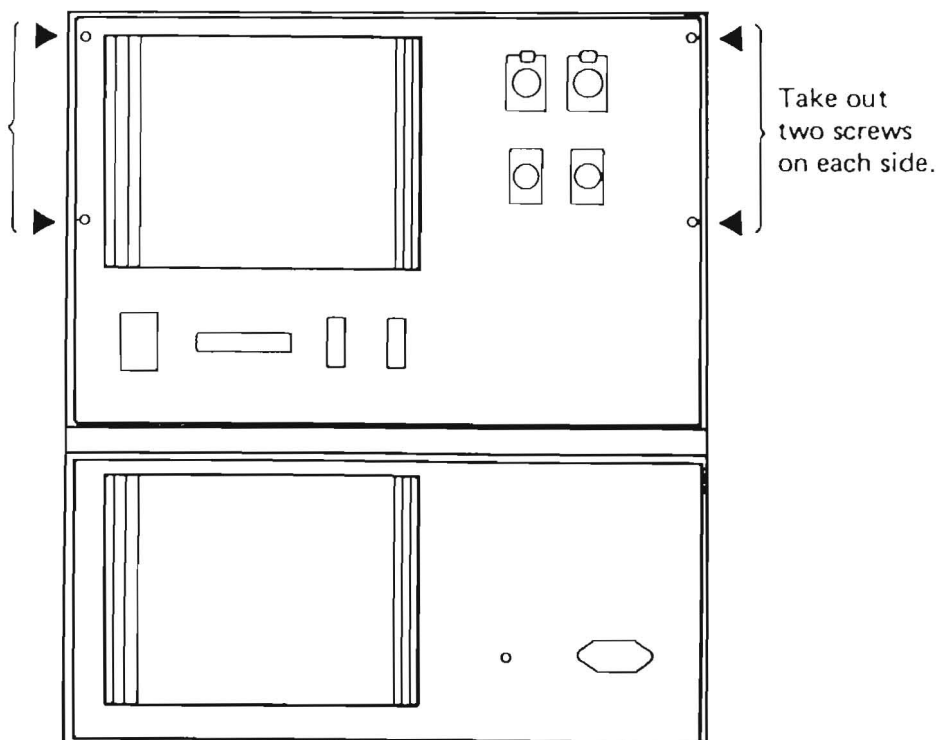

Fig. 3-1 Rear Panel Screws
- (1) Open the upper rear panel of the MTR-10/12 by removing the 4 phillips screws. (Fig. 3-1)
- (2) Remove the left rear side panel from the machine and replace with the connector-panel. Refer to page 13-30, 13-40 or 13-46 of MTR-10 and 12 Operation Manual.
- (3) Remove all blank panels located on the left side of the card cage from the front of the cage.
- (4) Remove the four round head socket screws (two on each side) attaching the card cage to the main chassis. This will allow the card cage to be withdrawn approximately 1 inch from the chassis for clearance while working.
- (5) Remove, reverse, and reinstall with the nuts facing outward, the four screws and nuts holding the card cage mounting brackets on the LEFT side of the card cage. This is necessary in order to provide clearance for the Time code PCB module in the leftmost card cage slot.